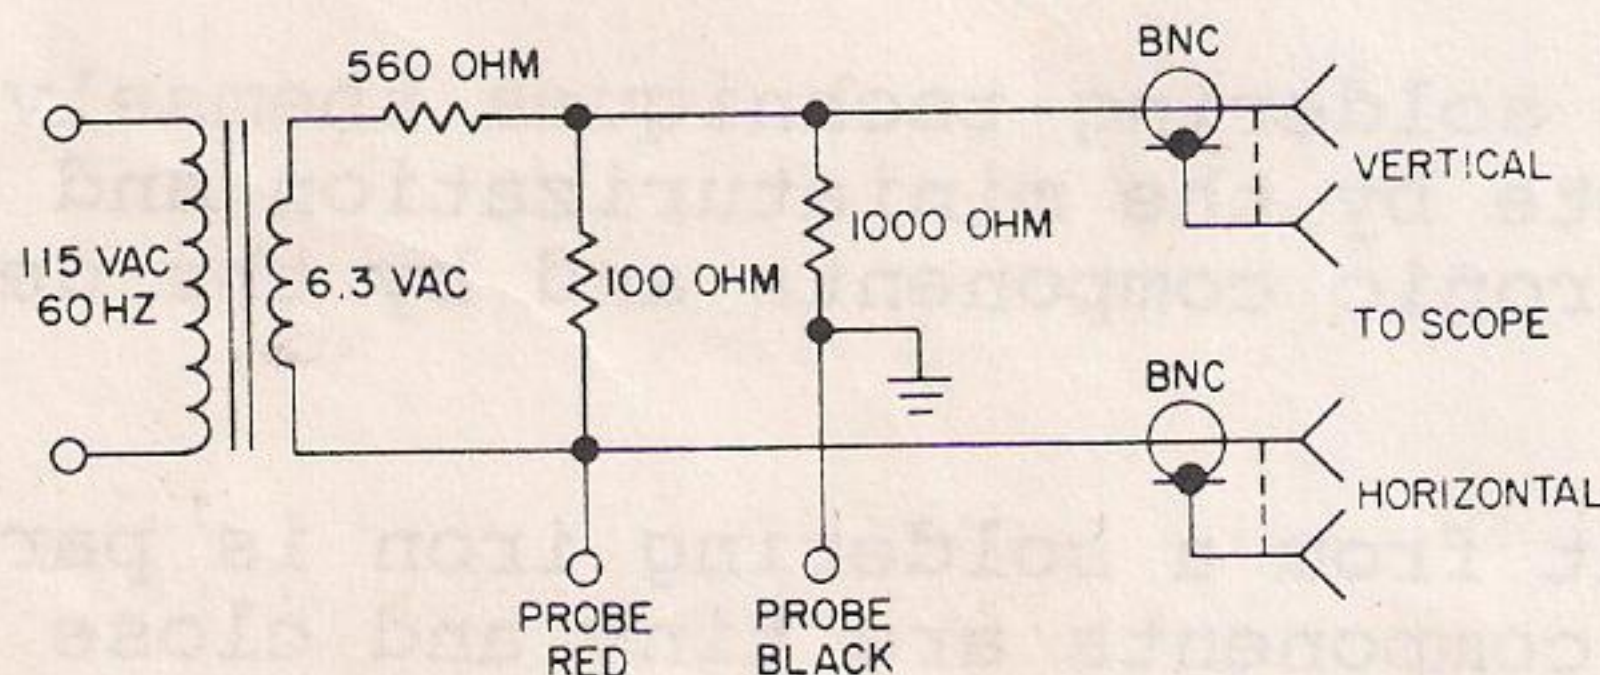

Figure 1. Tester With 6.3-Volt Filament Transformer
a. Tester With 6.3-Volt Filament Transformer. Assemble the tester as shown in figure 1, using:
(1) One filament transformer, 115 to 6.3 volts (the 6.3-volt size is commonly used; the 6.3 volts are dropped by resistors to 1.0 volt).
(2) Three resistors; one each at 1,000 ohms, 560 ohms, and 100 ohms (the 1,000-ohm resistor placed across the 1.0 voltage assures a safe current of 1.0 milliampere).
(3) Two test lead probes, color-coded (black for the ground and red for the hot lead). If leads are not needle-tipped, file the leads to a sharp point so they will penetrate the plastic and moisture/fungus proof coating frequently found on PCB's. Attach leads to the octopus permanently.
(4) Two BNC female connectors (used for vertical and horizontal outputs).
The 560-ohm and 100-ohm voltage divider resistors shown in figure 1 may be eliminated if the audio oscillator output can be fixed at 1.0-volt rms.